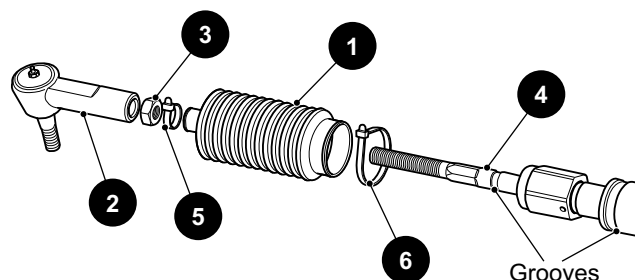

Figure 14 Bellows Replacement
- To replace the bellows (1) (Figure 14), loosen the passenger side front wheel lug nuts.
- Remove the rack ball joint (2) and jam nut (3) from the rack extension (4). See Rack Ball Joint Replacement.
- Cut the wire ties (5, 6) and slide the bellows off of the rack extension. Install the new bellows. Align the small end of the bellows over the groove in the rack extension. Secure with a new wire tie (5). Leave the large end of the bellows loose until the rack extension-to-rack and pinion unit clearance is checked or adjusted.
- Install the jam nut (3) and ball joint (2) on the rack extension (4). Connect the ball joint to the spindle arm. See Rack Ball Joint Replacement.